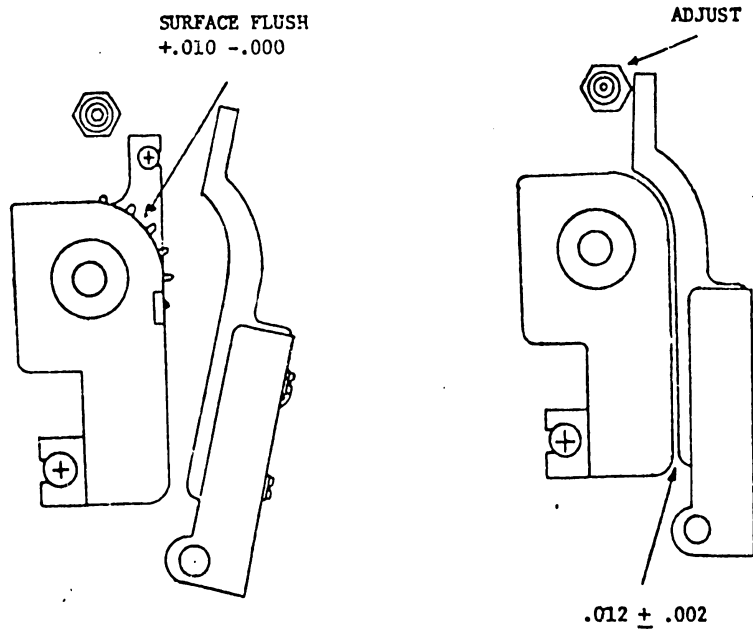

FIGURE 5-22 VERTICAL FORMAT HOUSING ADJUSTMENTS
- 1) The sprocket and housing are separate parts; hence with cover open, loosen the two screws holding the housing (Figure 5-22). Move the housing so that the base of the sprocket is flush with the housing.
- 2) Adjust cover stop eccentric to set a gap of $.012" \pm .002"$ ($.31 \text{ mm} \pm .06 \text{ mm}$) between the cover and housing (Figure 5-22).